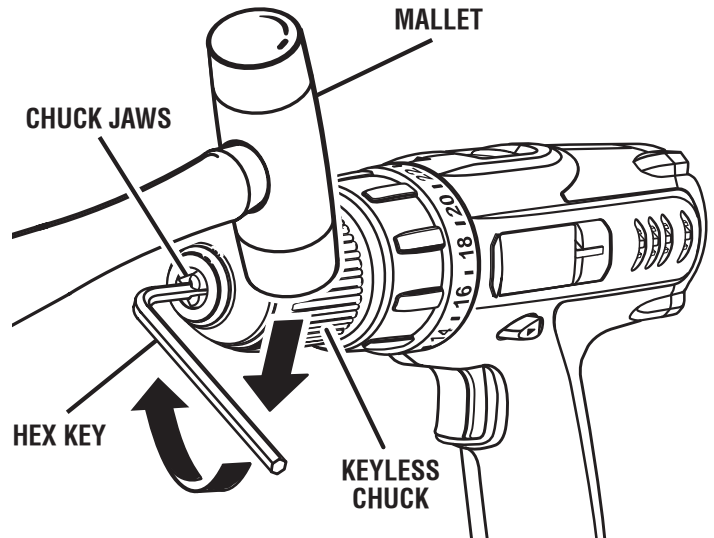

Fig. 13
See Figures 13, 14, and 15.
- Tap the hex key sharply with a mallet in a clockwise direction. See Figure 13. This will loosen the screw in the chuck for easy removal.
- Insert the hex key into the chuck and tighten chuck jaws securely. Tap the hex key sharply with a mallet in a clockwise direction. This will tighten the chuck on the spindle. See Figure 13.